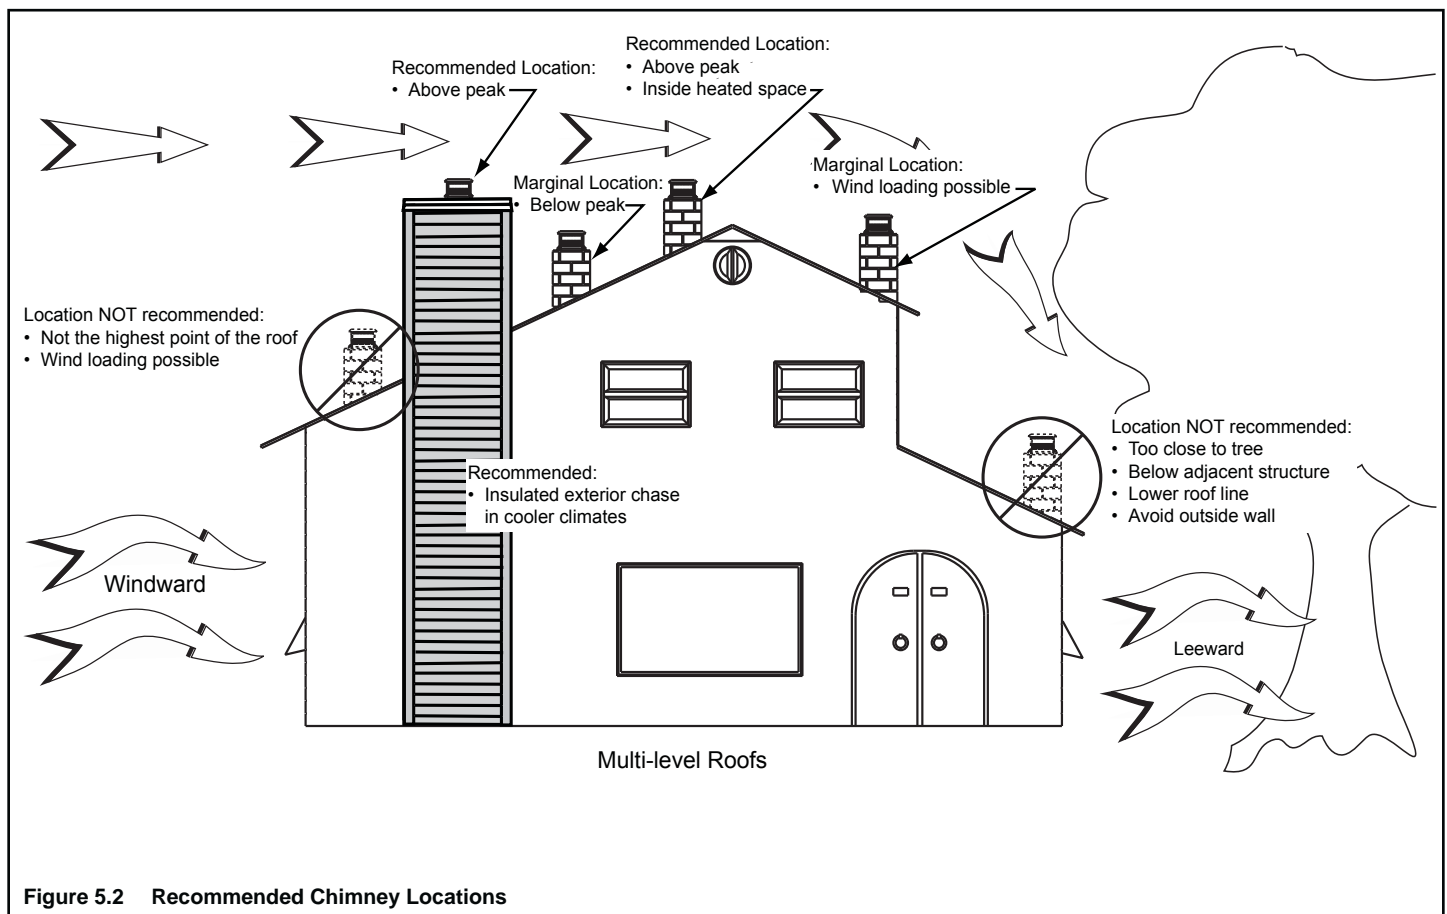

Figure 5.2 Recommended Chimney Locations
- Locate the outside air hood in a clear area, preferably into prevailing wind during the heating season. Refer to Figure 5.2.